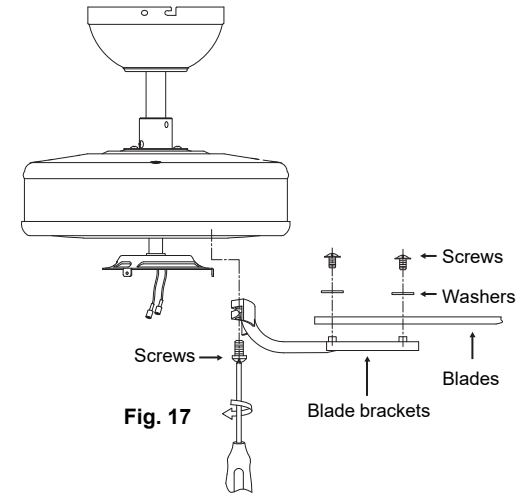

Fig. 17
Step 1. Attach the blade to the blade bracket using the screws and washers as shown in **Figure 17**. Start screw into bracket. Repeat for the two remaining screws.